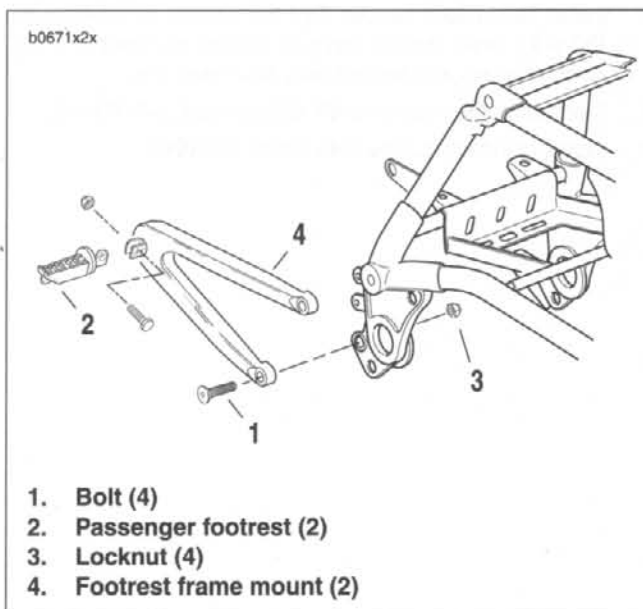

Figure 2-147. Footrest Frame Mount—Exploded View
1. See Figure 2-147. Remove two bolts (1) and locknuts (3) securing footrest frame mount (4) to frame.
2. If necessary, detach passenger footrests (2) by removing bolt and nut.
- a. See Figure 2-147. Apply LOCTITE THREAD-LOCKER 243 (blue) to footrest bolts (2).
2. Align footrest frame mount (4) with frame mounting holes.
- a. Apply LOCTITE THREADLOCKER 272 (red) to mounting bolts (1).
- b. Secure mounts with bolts (1) and locknuts (3). Tighten to 13-16 ft-lbs (17.6 -21.7 Nm).